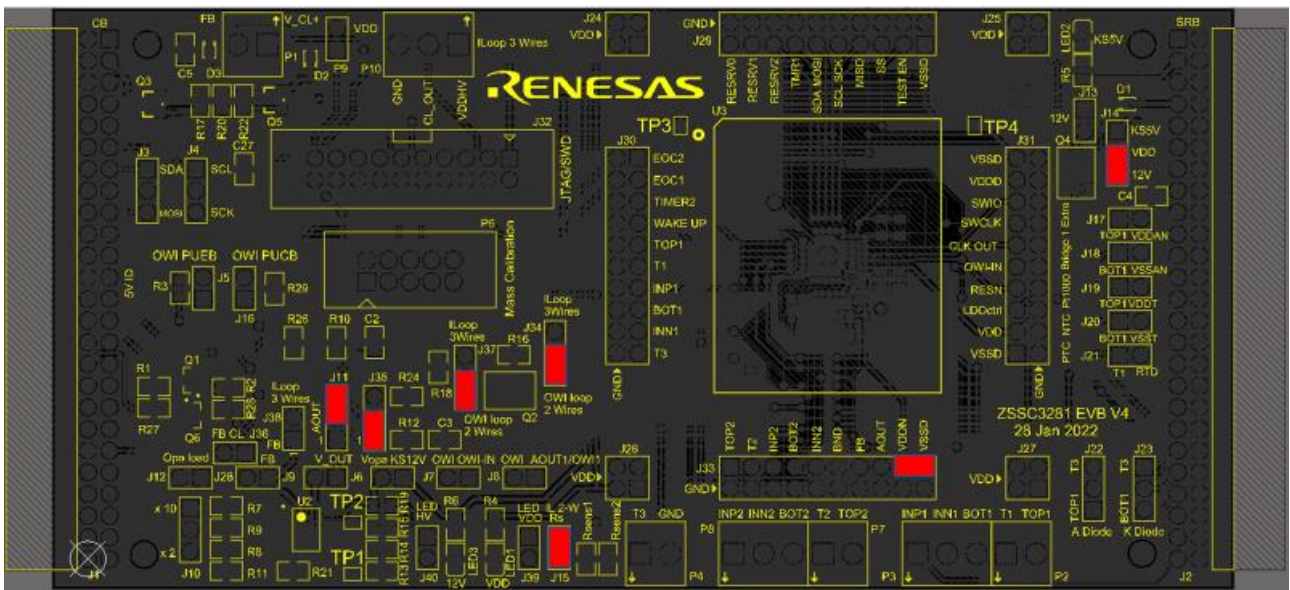

Figure 128. 2-Wire Current Loop Jumpers
- Ensure that VDDN is shorted to GND (J33) as displayed in Figure 128.